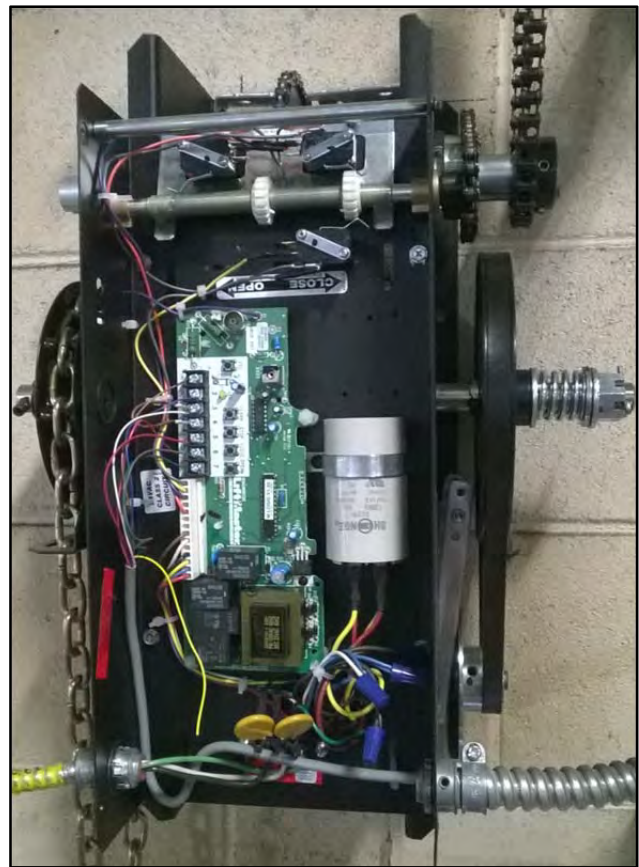

Figure 18
2. Open the door to the control panel/motor drive. (See Figure 18)
3. Inspect all electrical lines leading to the control panel. Check all electrical connections inside the control panel. All connections must be tightly secured. (See Figure 18)
4. Check for pinched, cracked, or damaged wires and insulation. Repair or replace wires & connections as needed. (See Figure 18)